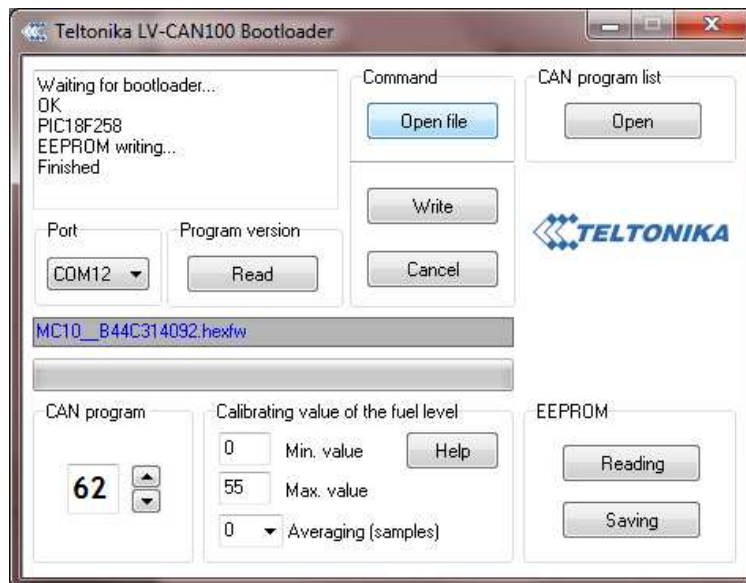
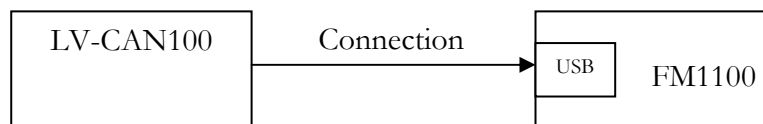

Figure 3 Teltonika LV-CAN100 Bootloader software
Figure 6 Connect adapter LV-CAN100 to FM1100
SCAN function – is in use when FM1100 is connected to CAN adapter (Figure 6), then wait 10s (Note, that car engine must be started), disconnect adapter from FM1100, and connect PC USB cable to FM1100 Device (Figure 3). It is very important not to disconnect FM1100 from power source during this operation, because if FM1100 is reconnected all received CAN bus data will be lost. FM1100 remembers received data from LV-CAN100 and at the end of the procedure when “SCAN” button is pressed, user will see all CAN data which is sent by adapter. Enable CAN data which needs send to server and save configuration pressing “Save” button.
1. In car, connect LV-CAN100 to CAN bus and to the FM1100 device (Figure 6), wait 10 seconds. Note, that car engine must be started.
High and Low levels – defines CAN value range. If CAN value enter or exits this range, FM1100 generates event by “Data Acquisition Type” settings. Figure 6 show example of FM1100 CAN configuration.